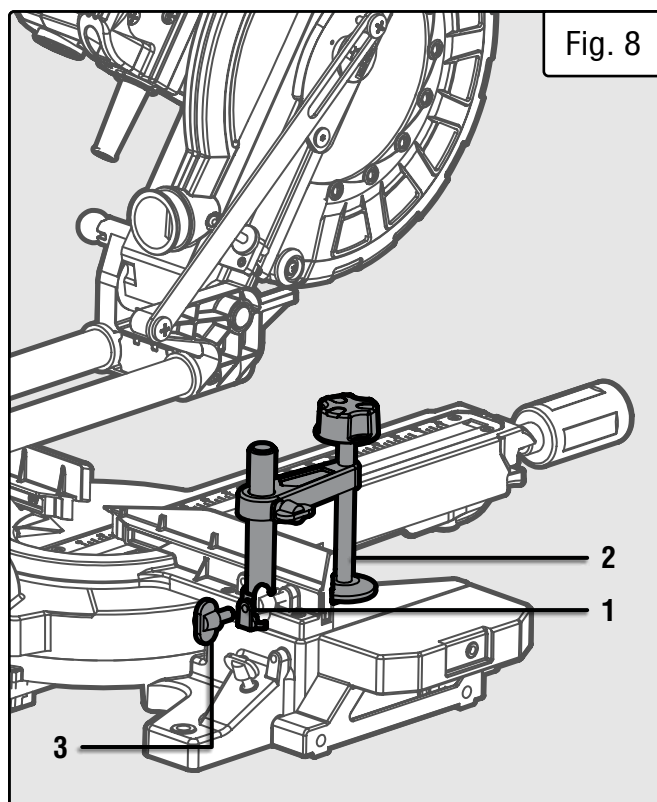

Fig. 8
1. Locate the hole for the clamp (Fig. 8 - 1) on the left or right side of the miter saw behind the fence. Insert the clamp assembly (Fig. 8 - 2) into the hole on the desired side.
2. Secure the clamp into place by tightening the clamp lock knob (Fig. 8 - 3).